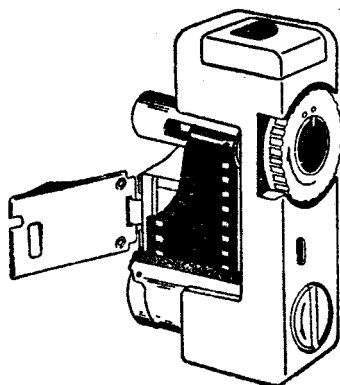

Figure 6
5.3. Open plate (19), insert cartridge with film into the camera. Insert end of the film into slot of the take-up spool (16), so that it has left through opposite slot. Make sure that the film lays on guidelines of the film channel without skews, and a claw of the reception coil and claws of the star (15) fit to the film perforation (fig. 6).